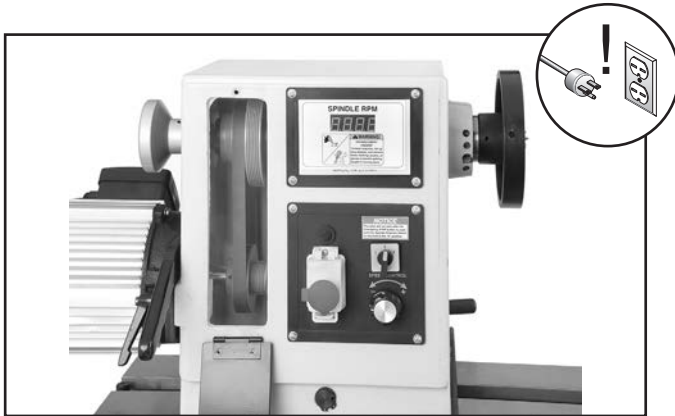

Figure 26. Belt access cover removed.
2. Open front belt access cover, as shown in **Figure 26**.